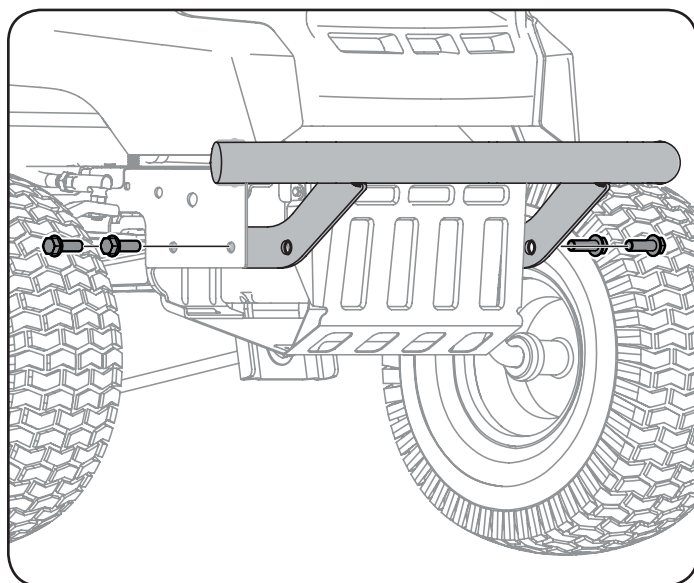

Figure 6
2. Position the bumper brackets to the inside of the tractor's frame and secure it in place with the four hex flange screws. See Figure 6.